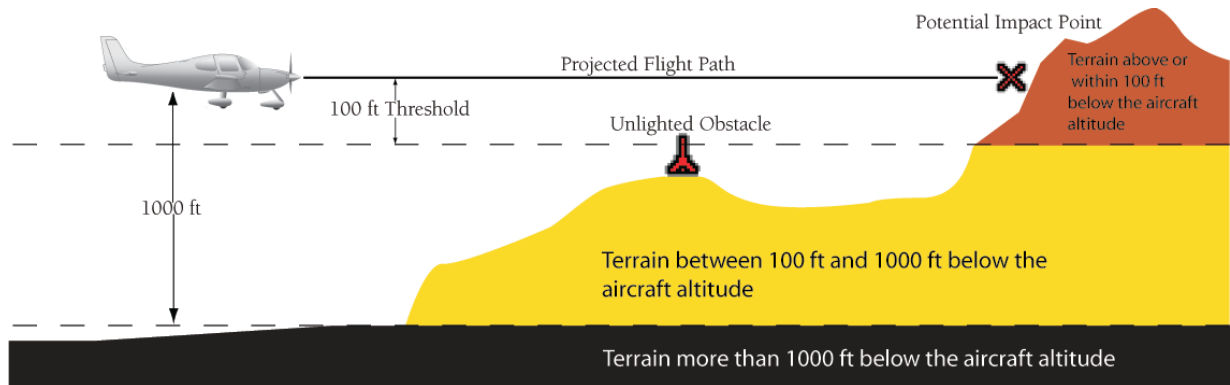

Figure 6-69 Terrain Altitude/Color Correlation for TAWS-B
TAWS-B uses yellow (caution) and red (warning) to depict terrain and obstacles (with heights greater than 200 feet above ground level, AGL) alerts relative to aircraft altitude. Colors are adjusted automatically as the aircraft altitude changes. The colors and symbols in Figure 6-69 and Table 6-9 are used to represent terrain, obstacles, and potential impact points.
- 3) With 'Map Setup' highlighted, press the **ENT** Key (Figure 6-69).